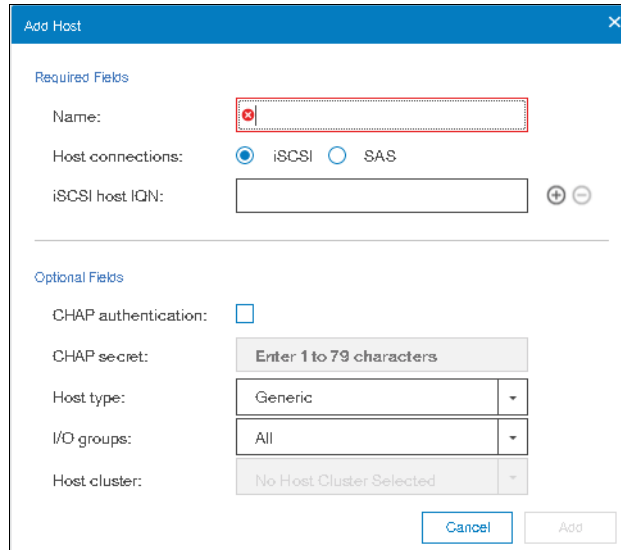

Figure 5-68 The host configuration wizard
1. From the main screen, follow the path **Hosts** → **Hosts** → **Add Host**, and the host configuration wizard opens, as shown in Figure 5-68.